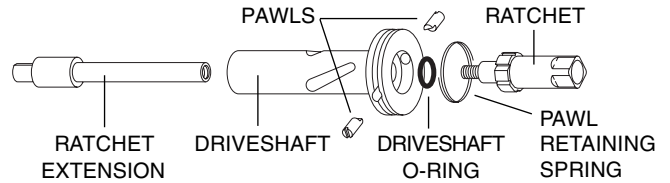

**Figure 6:** O-ring locations
11. Place the thrust race washers and bearing in the male end cap. (The thin washer goes in first, as in **Figure 6**.) Slide the subassembly onto the pins of the male end cap with the square end down.
13. Place the thrust race washers and bearing in the female end cap. (The thin washer goes in first, as in **Figure 6**.) Press the end cap into the cylinder, making sure that the air inlet hole lines up with the one in the male end cap.